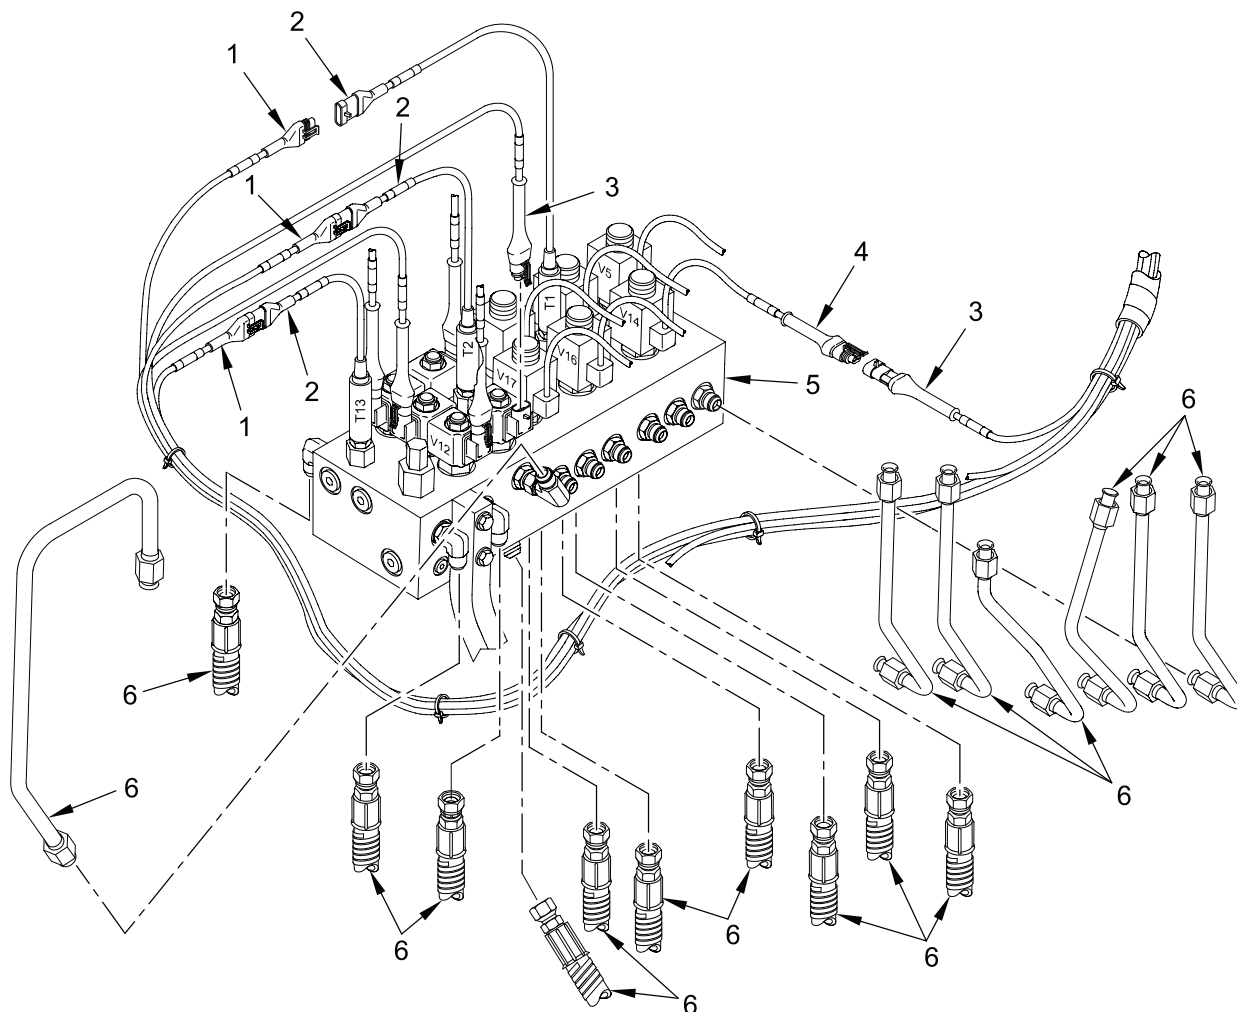

Figure 1. Removing HDC Primary Manifold Assembly and Mounting Bracket
1. Remove 17 hydraulic hoses and tubes (Figure 1, item 6) from primary manifold (Figure 1, item 5). Plug ends of hoses and tubes and cap ends of adapters to prevent leakage.
2. Remove wiring harness W2 connectors P1, P5, P11, P12, P13, P14, P15, P16, P17, P19, and P20 (Figure 1, item 3) from valves V1, V5, V11, V12, V13, V14, V15, V16, V17, V19, and V20 (Figure 1, item 4) at primary manifold (Figure 1, item 5).
3. Remove wiring harness W2 connectors P2, P31, and P32 (Figure 1, item 1) from transducers T2, T1, and T13 (Figure 1, item 2) at primary manifold (Figure 1, item 5).